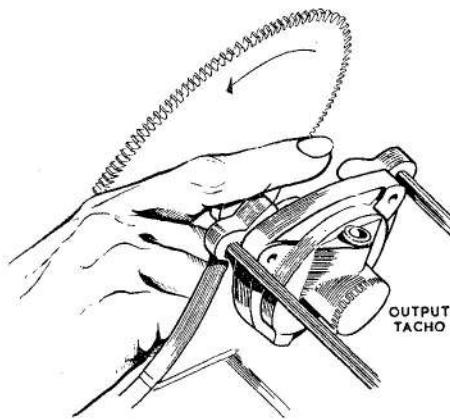

Fig. 14. Spinning detector wheel
(2) Rotate the VARIABLE SPEED CONTROL fully anti-clockwise.
(3) Synchronize the DRIVE TACHO by manually spinning the detector wheel. This is best accomplished by spinning the tacho-wheel coupling with the fore-finger, as shown in fig. 14.